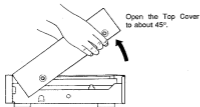

Fig. 3
c. Keep lifting up the Top Cover till it opens about 45° as shown in Fig. 3.